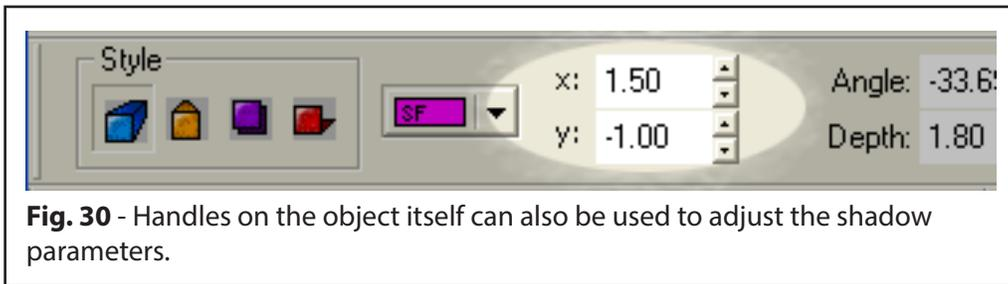

Fig. 30 - Handles on the object itself can also be used to adjust the shadow parameters.
- For the position of the shadow, set the **X Position** to 1.5 and the **Y Position** to -1.0 (Fig. 30).